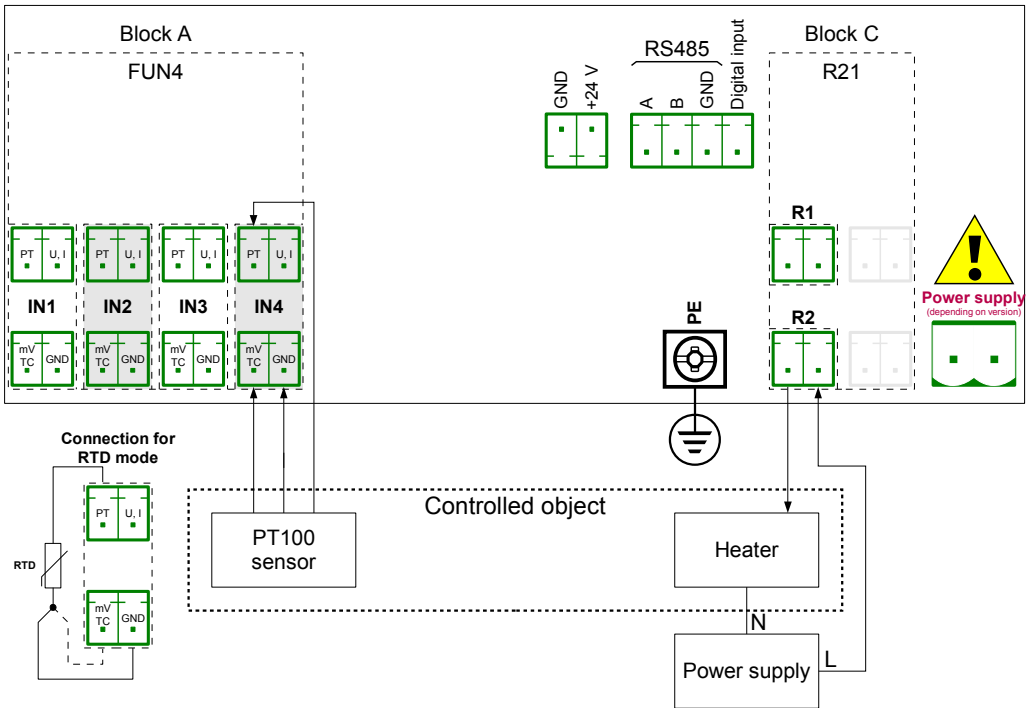

Fig. 7.94. Schematic diagram for the FUN4 hardware configuration in RTD mode and output hardware configuration
First configure the device as described below, then connect the object and power supply as shown in **Fig. 7.94**.
To control temperature in the object shown in **Fig. 7.94**, it is necessary to configure one **Logical channel** and **Relay output**.
- **Source** parameter set as **Inp.A4 : Universal** (see **Fig. 7.94**),
- using the arrows in the top navigation bar, select a relay output which is connected to the heater. For this example it is the output named **Out.C2 : Relay** (see **Fig. 7.94**),